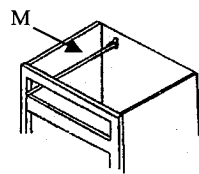

Figure 7
6. Install the drawer slide rails (Figure 7): insert the drawer slide rails backend into the holder (N) previously installed (step 5) on the back panel (D). Then secure the drawer rail front end with flat head screws using the predrilled holes in the face frame. Repeat this step for each drawer slide rail.